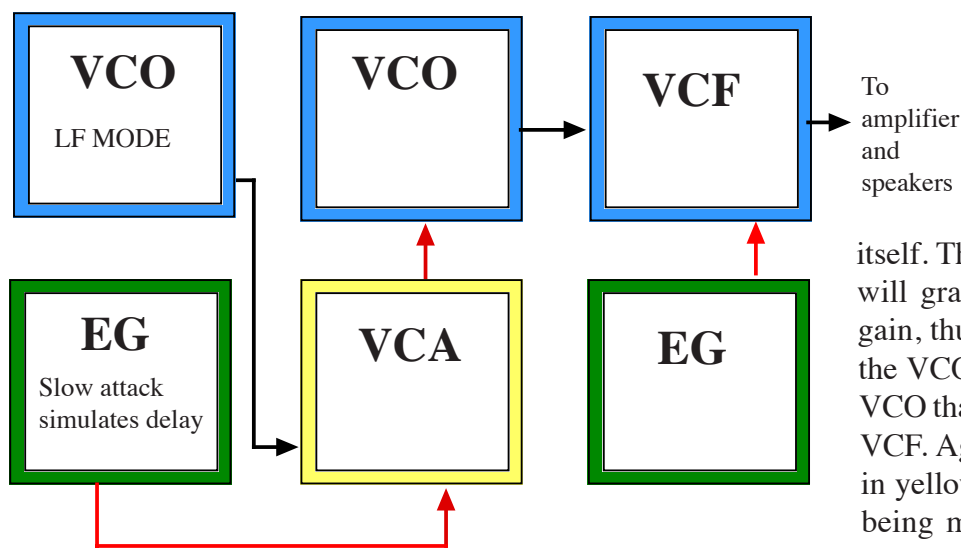

Figure 13-7: Delayed vibrato without using the keyboard's LFO
The keyboard's LFO offers four parameters. First, the rate and depth of the vibrato can be set. This is no different from the FM patch which was created in Section 3. The vibrato rate is adjusted using the LFO SPEED slider, while the vibrato depth is adjusted using the VIBRATO DEPTH slider. (See Figure 13-6) However, a delay can also be set for this vibrato. *Delayed vibrato* can be defined as the amount of time from the time a key is pressed to the time the vibrato starts in. It is adjusted using the VIBRATO DELAY slider. (See Figure 13-6) This effect is highly desirable since it better simulates real-world vibrato. Before this parameter was made available on the keyboard's LFO, synthesists would often route the output of the VCO being used as an LFO to an audio input on the VCA. The VCA would then be modulated by an EG and the output of the VCA would be fed back to the FM inputs on the VCOs. This patch is illustrated in Figure 13-7. In this patch, one VCO, the VCA, and one EG are sacrificed to create delayed vibrato. A huge sacrifice, to be sure, but the effect was desirable enough to make it worthwhile for many synthesists.
9. Create the delayed vibrato patch shown in Figure 13-7 on page 103. Experiment with different settings in the VCA's EG, the VCA's gain, and the level of the LFO coming into the VCA until the sound of the keyboard's LFO is closely simulated. Which is easier to use? This patch or the keyboard's LFO? Which patch is more flexible?